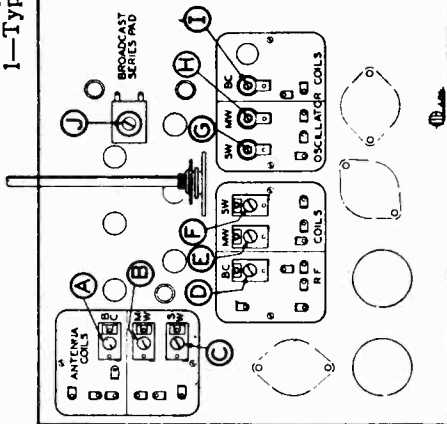

FIG. 3.—BOTTOM VIEW SHOWING TRIMMERS
- (a) Move dial pointer to 1720 Kilocycles and adjust broadcast oscillator trimmer (adjustment I) to resonance. See bottom view, Fig. 3.